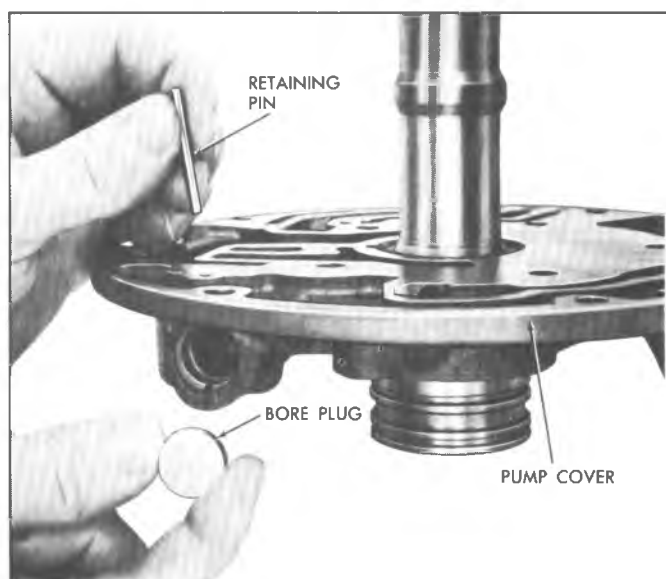

Fig. 62T--Installing Pressure Regulator Retaining Pin and Bore Plug
8. Remove retaining pin and bore plug from pressure regulator bore (fig. 62T).